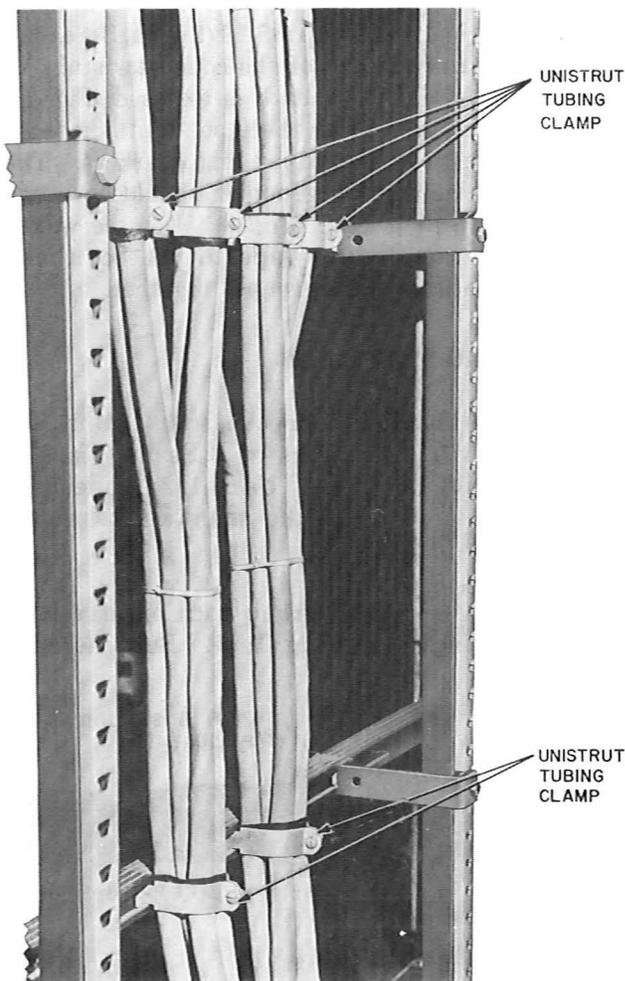

Fig. 3—Stub Cables Attached to Framework
3.03 Where the stub cable run is perpendicular to a horizontal racking member, either tubing clamps, as shown in Fig. 3, or lashed cable supports may be used to attach the stub cables to the framework. The size of the tubing clamps used is determined by the number of stub cables being supported. Refer to Section 622-700-100 for clamp sizes.